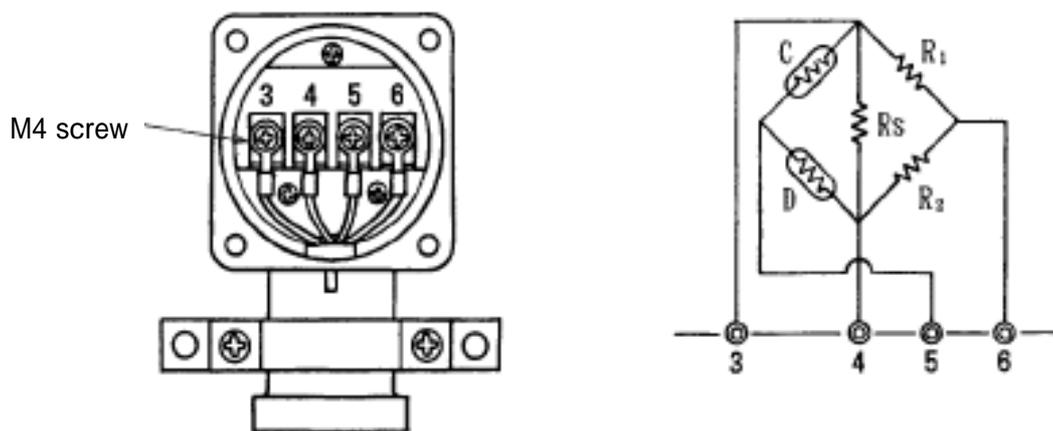

Fig. 4
(3) Terminal number 3,4,5,6 are marked on the terminal strip in terminal box as shown in Fig. 4. Wire them correctly. When placing the lid of terminal box onto the terminal box, take care not to pinch the cable between them.